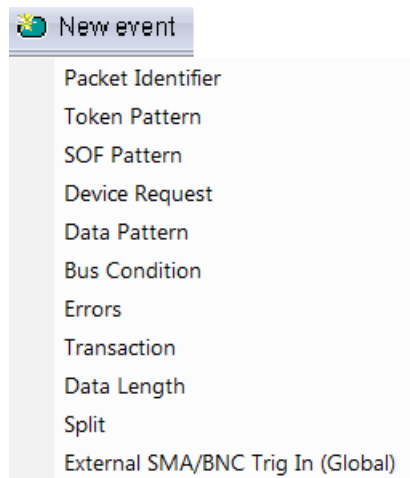

Figure 10.18: New Event Pop-up Menu
1. Click the **New Event** button at the left side of the toolbar to display the New Event pop-up menu (see Figure 10.18 on page 287).